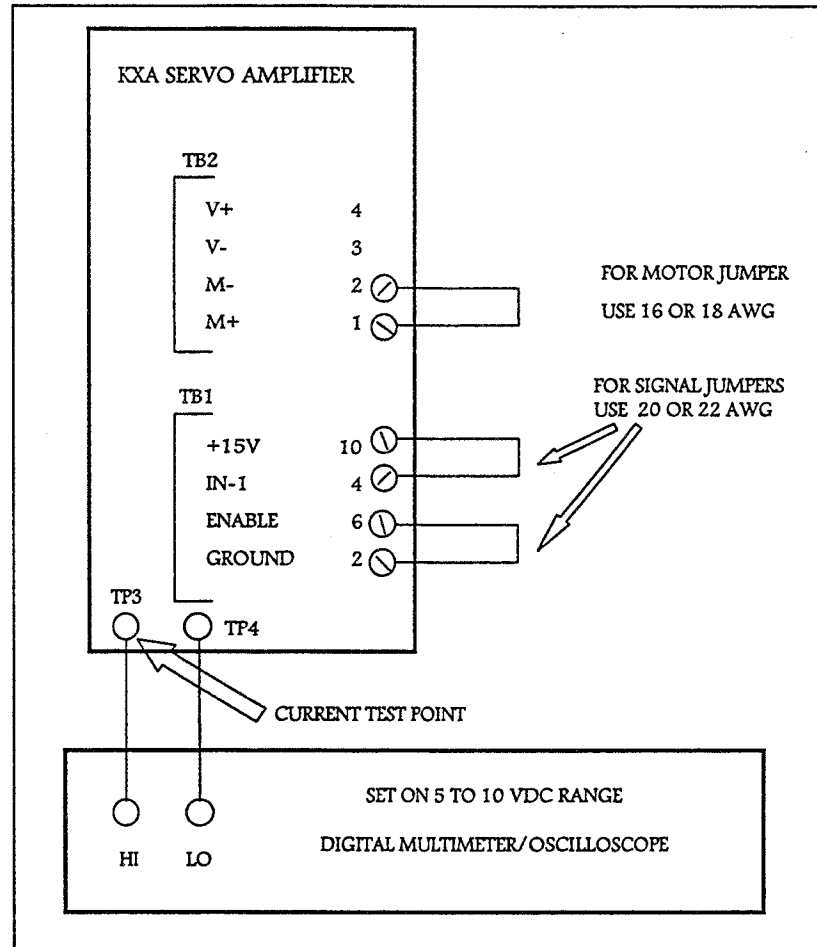

Figure 4. Wiring Diagram for Setting the Current Potentiometers.
- C3. Connect a jumper wire across motor terminals M+ (TB2-1) and M- (TB2-2). Use 16 or 18 gauge wire. (See Figure 4 on next page.)